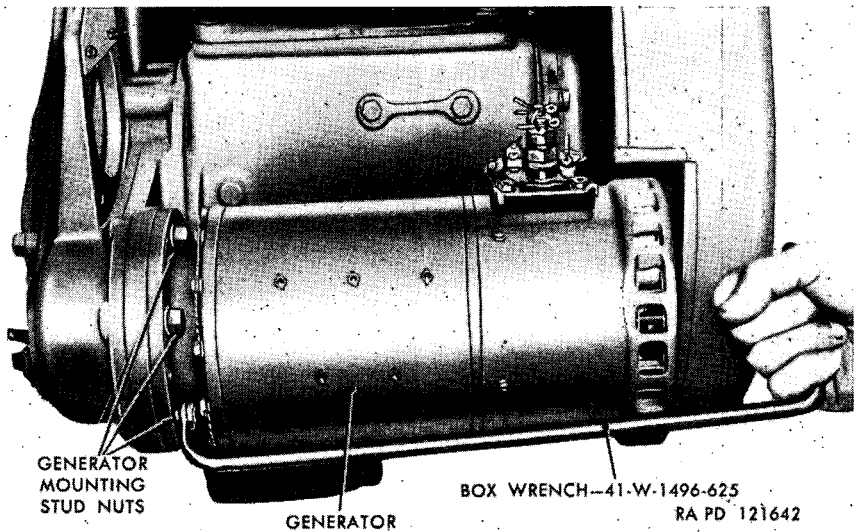

Figure 312. Removing auxiliary generator.
Using box wrench 41-W-1496-625, remove six generator mounting stud nuts and lock washers (fig. 312). Pull generator from mounting studs.
c. INSTALLATION. Position generator on mounting studs. Install six lock washers and mounting stud nuts, using wrench 41-W-1496-625 (fig. 312). Insert a jumper cable between terminals "A" and "B" on terminal block (fig. 309). Start engine and check generator voltage with a voltmeter across two large terminals "B" and "E". If voltage is not less than 24 volts, remove jumper cable. If voltage is